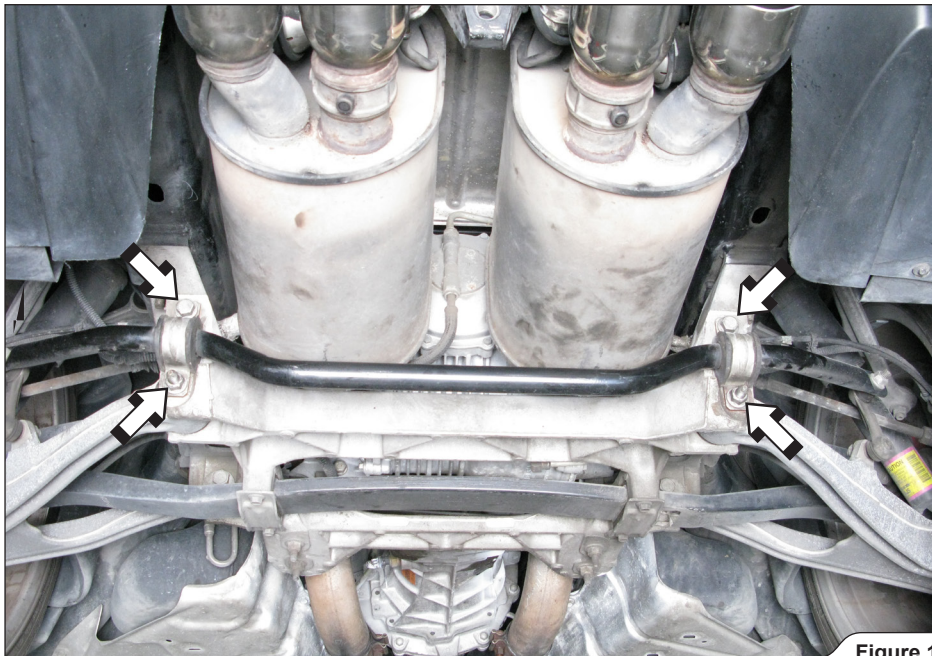

Figure 1
1. **For Slip-On and Evolution:** unscrew the marked bolts and nuts. Move the drag link out of the way (Figure 1, 2).